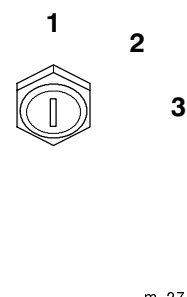

Figure 12
3. Turn the ignition key to “OFF” (Fig. 12).